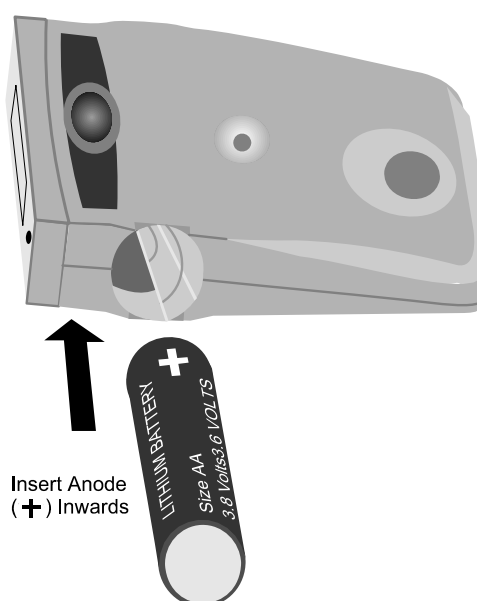

Figure 2.4 - Inserting The EPD Battery
- (iv) Remove the existing battery (if fitted). Insert a new (or replacement) battery into the battery compartment as shown in Figure 2.4.